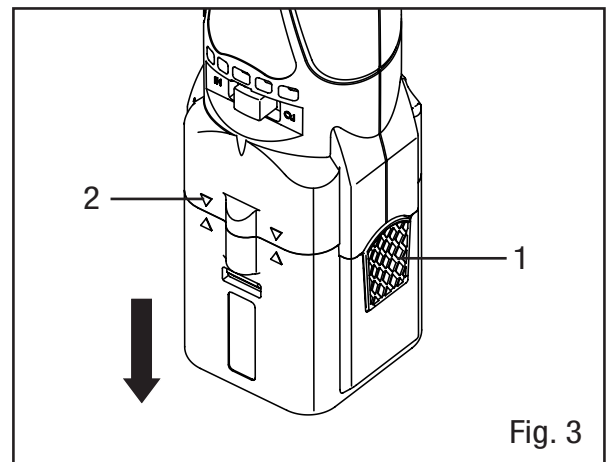

Fig. 3
## INSTALLING THE BATTERIES (FIG. 3 & 4)
1. Remove the battery pack by pressing down on the two cover tabs (Fig. 3 - 1) and sliding the battery pack cover out of the tool.
5. Align the arrows on the battery cover with the arrows on the rotary tool (Fig. 3 - 2). Insert the battery pack into the tool until a click is heard.